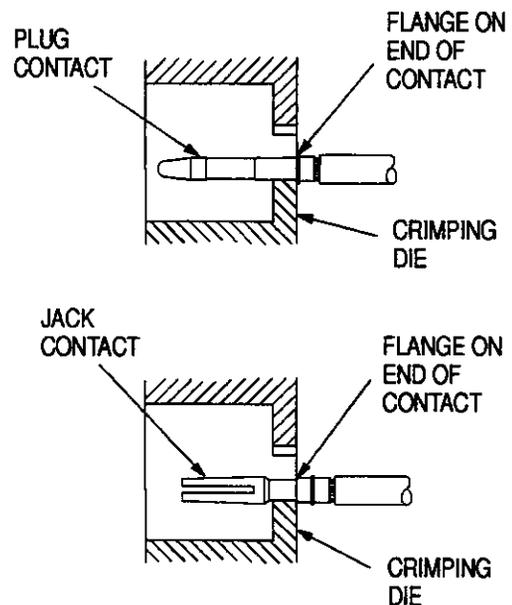

Figure 2
4.1. Crimping the Center Contact (Figure 2)